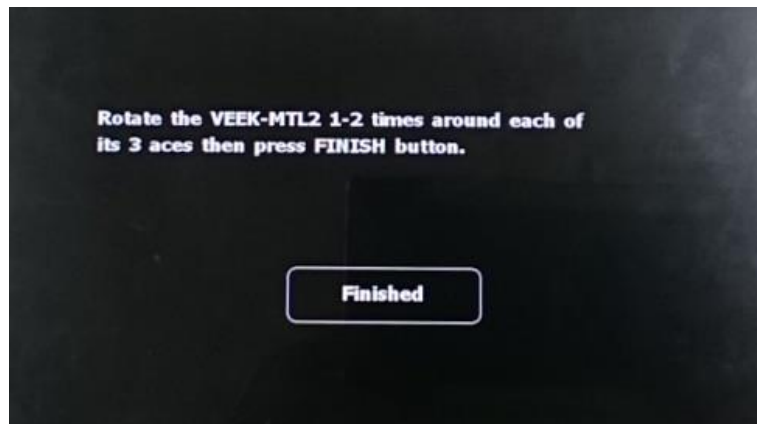

Figure 4-13 Hint for rotate VEEK-MT2
- Touch the Calibration button to start the calibration process. When the button is touched, the LCD content will be changed as shown in Figure 4-13.